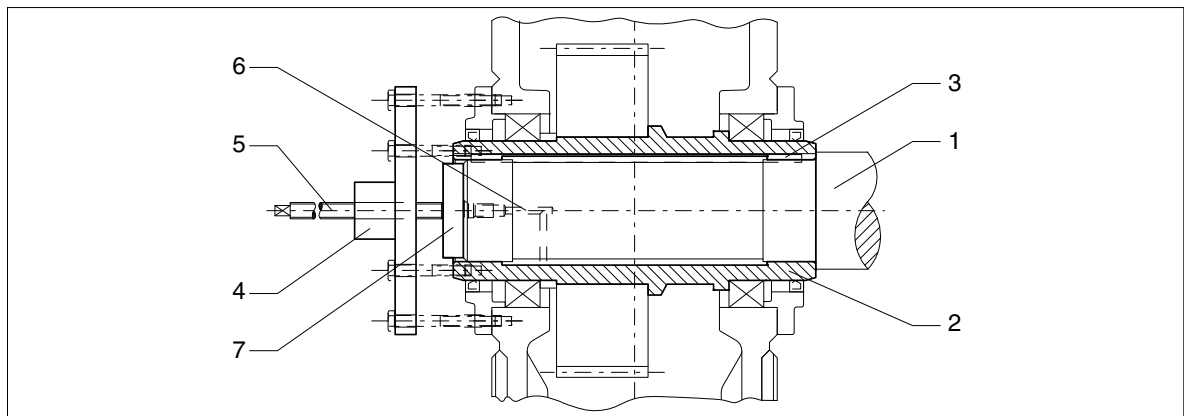

Fig. 45: Hollow shaft with parallel keyway, demounting with hydraulic lifting unit
- When the rust-releasing agent has taken effect, pull the gear unit off with the device (see figures 45 and/or 46).
- preferably using a hydraulic lifting unit (see figure 45)
If the support is provided not only by the hollow shaft, but also by the housing, as shown in figure 45, the forces used must not exceed the values given in the following table 16.